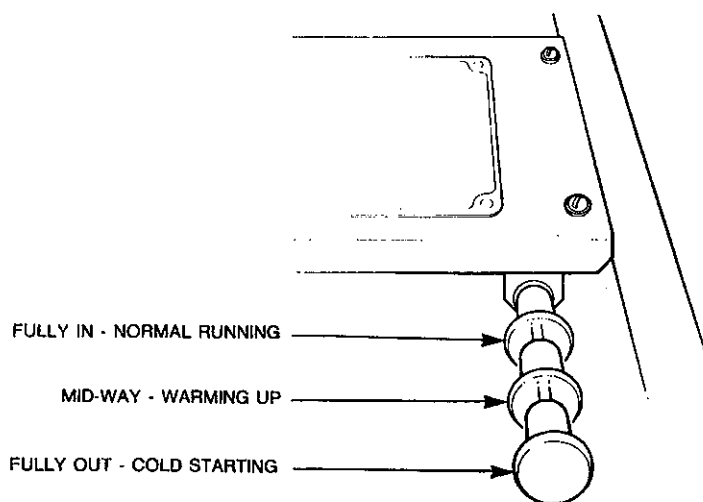

Fig. 4 Choke control positions
2. Pull out the choke control to its fully out position (Fig. 4).
7. As soon as the engine responds to the throttle without misfiring, push the choke control to its midway position (Fig. 4).
8. The choke control must be pushed fully in to the normal running position when the engine has warmed up (Fig. 4).